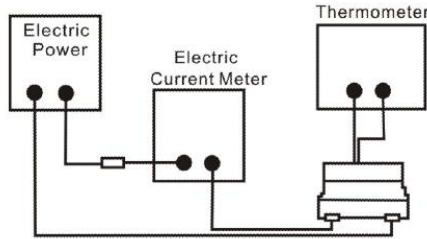

Fig.5.3.3-1
- d. Definition of Temperature rise current: DC current that causes the temperature rise ($\Delta T = 40^\circ\text{C}$) from 20°C ambient (see Fig. 5.3.3-2).